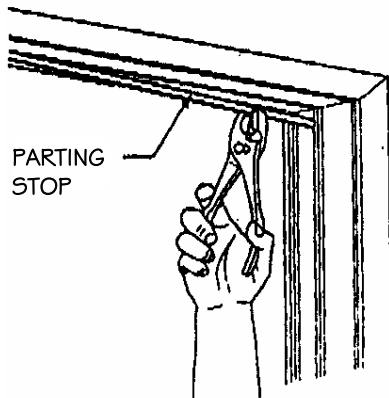

FIGURE 2
3. Slide top sash to sill and pull parting stop out from center of window head. See Figure 2.